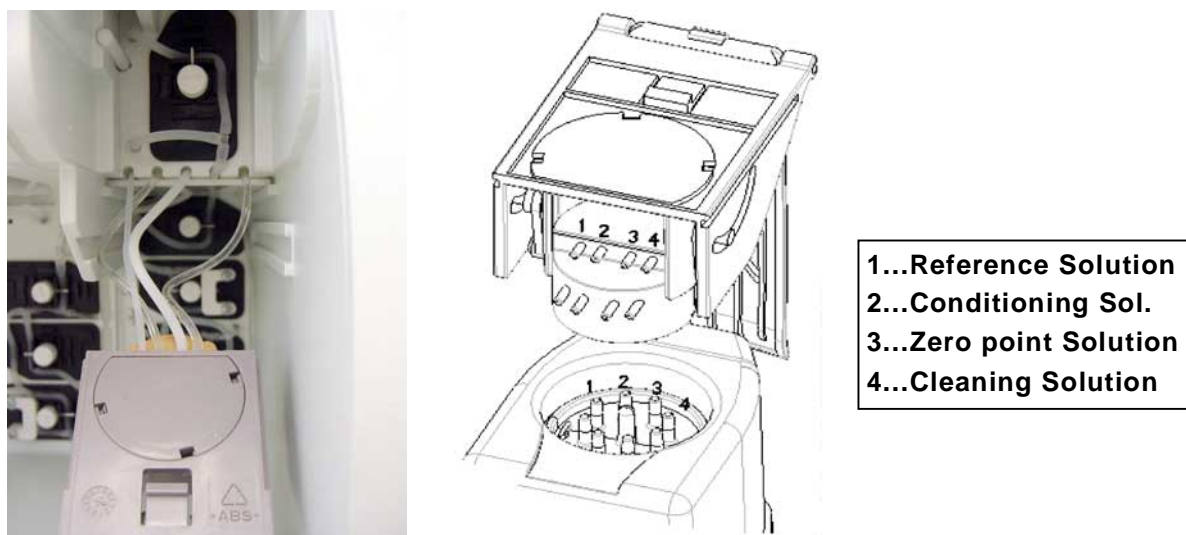

Fig. 3-71 Docking mechanism C3
5. Pull off the tubes from the docking mechanism (see Fig. 3-71).
Pay attention to correct connection of the tubes to the upper row of connectors at the docking mechanism (see Fig. 3-71)!